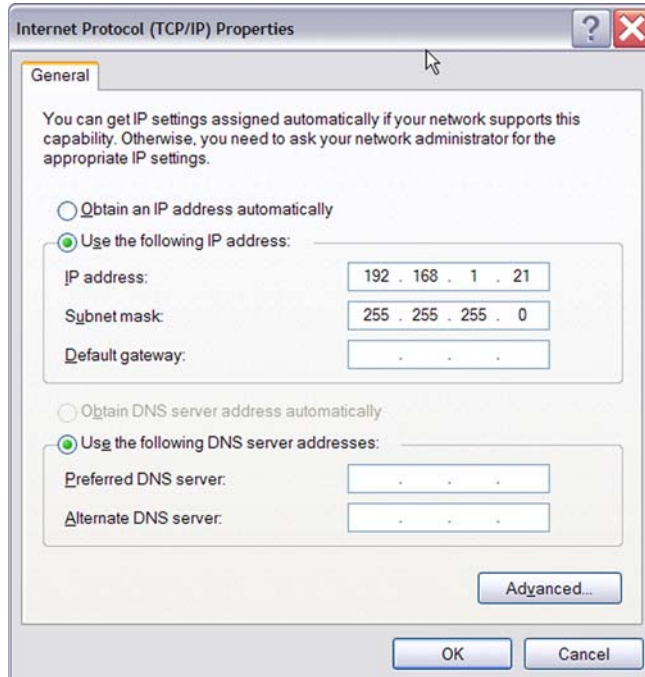

Figure 10. The Internet Protocol Properties Dialog
4. In the panel labeled This connection uses the following items:, select the Internet Protocol (TCP/IP) item to highlight it, and click the Properties button. The Internet Protocol (TCP/IP) Properties dialog box appears (Figure 10).
5. Enter values for the IP address and subnet mask to match those shown in Figure 10. Leave any remaining fields blank. In this example, an IP address of 192.168.1.21 and a subnet mask of 255.255.255.0 are being assigned to the PC. These values place the PC on the same network as the Crimzon ICE unit.